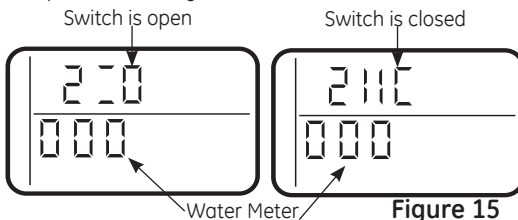

Figure 15
1. Press and hold **MODE/SET** for 3 seconds until the Set low salt alarm display appears, next press the **MODE/SET** button two additional times until "000" shows in the display, then release, see Figure 15.
3. Symbols in the display indicate POSITION switch operation, see Figure 15